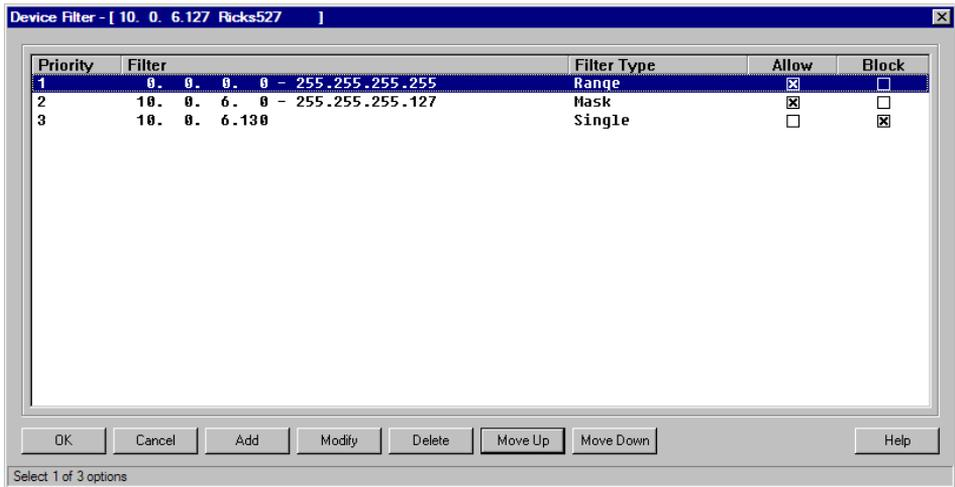

Figure 3-29. Device Filter
- Highlight the device for which you will define IP filtering and select **Modify**. The system displays the Device Filter dialog (Figure 3-29).